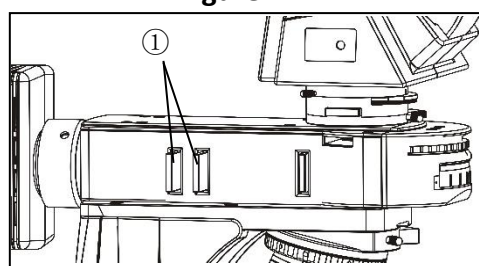

Figure 13
When transmitting illumination, insert the filter module as needed at the filter slot position ① in Figure 13. The first positioning is empty, pushing until the second position, the color filter enters the light path.